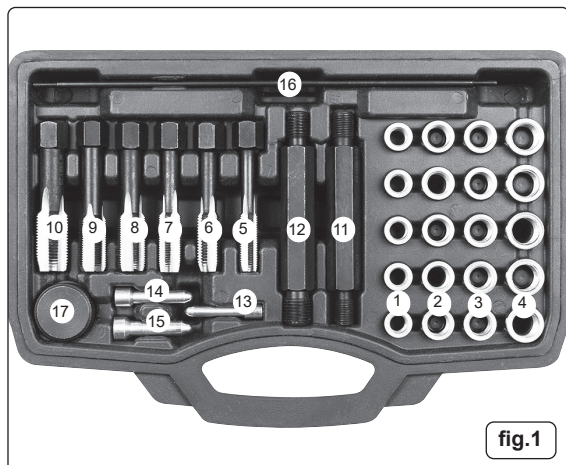

fig.1
**Insert/Tap/Guide Configurations (Refer to fig.1 & fig.2)**